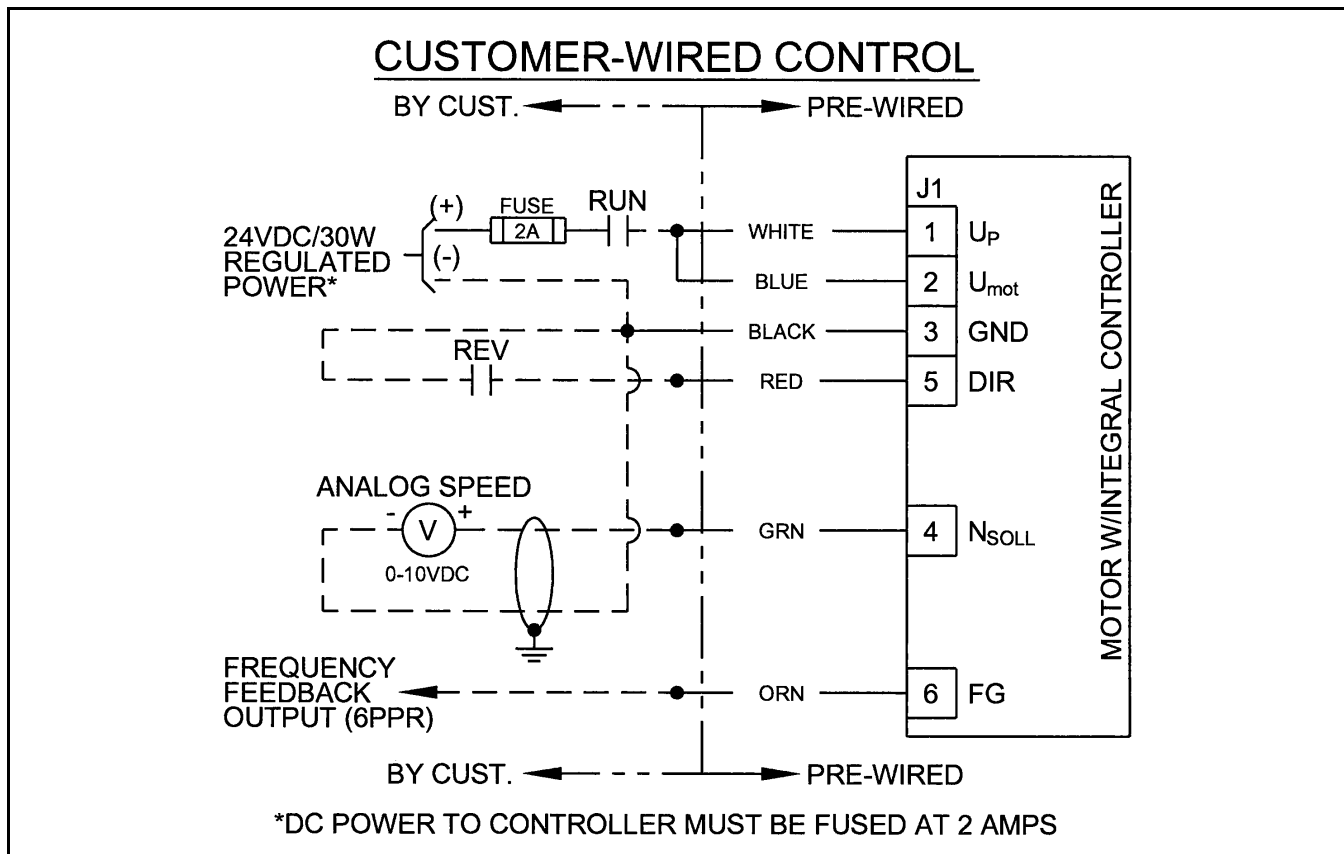
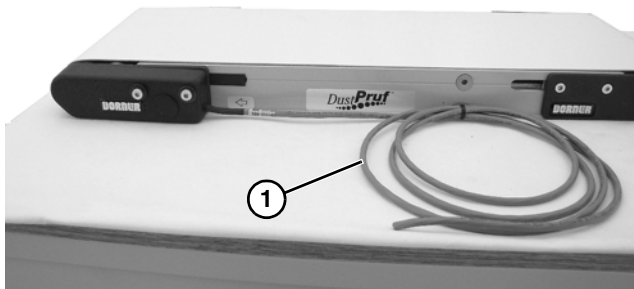

Figure 31
Figure 32
1. Locate lead wires (**Figure 32, item 1**) extending from iDrive cover. Determine wiring diagrams based on diagrams above (**Figure 31**).